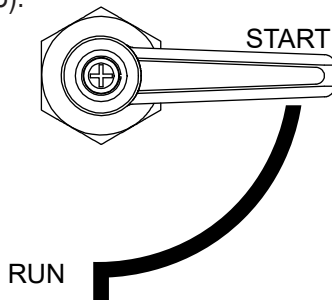

Figure 23. Unloader Valve (START)
2. Place the **unloader valve** in the **START** position (Figure 23).